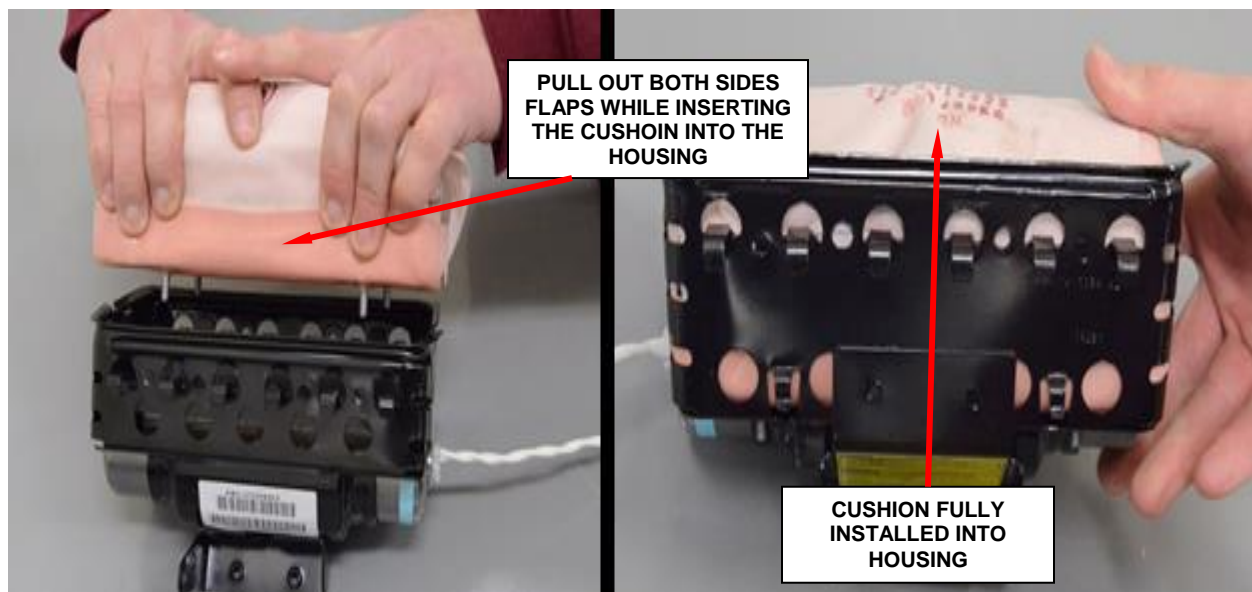

Figure 158 - Side Flaps Must Be Held Out
- l. Insert the cushion, pulling out both side flaps (Figure 158).